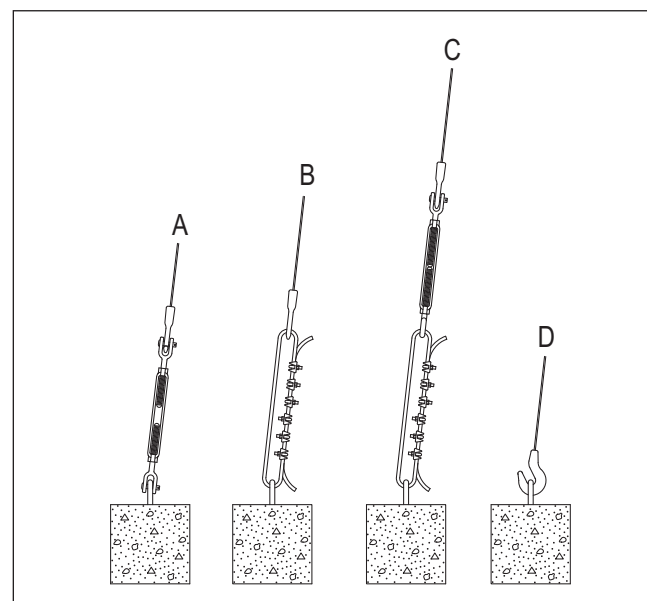
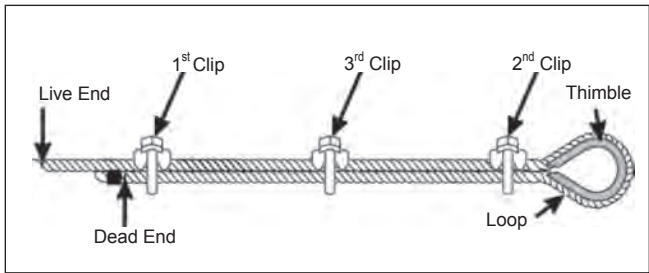
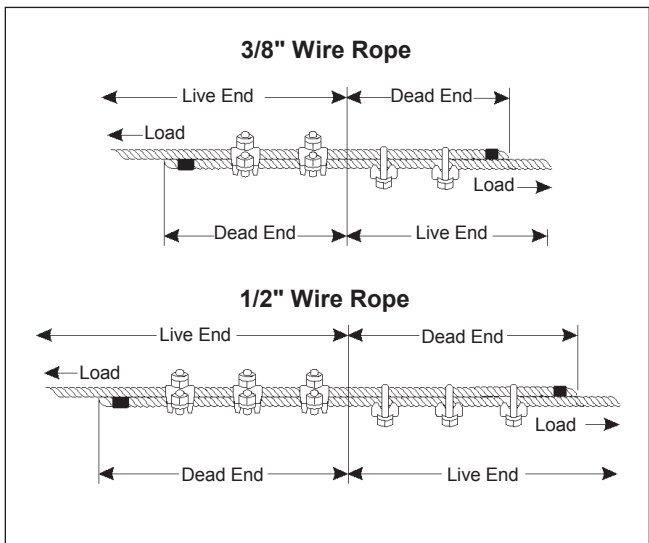

FIGURE 8-4
FIGURE 8-5
FIGURE 8-6
8.3.7. When connecting the end of an anchor strap to the anchor point, common methods are those *shown in FIGURE 8-4*: A) using a drop-forged turnbuckle, B) using a looped wire rope, C) using a combination of both A and B, and D) using the hook end of the strap.
8.3.8. If using a wire rope, refer to recommendations of wire-rope manufacturer and supplier, and follow accepted industry standards when selecting, using, attaching or connecting wire rope. See *FIGURE 8-4*, *FIGURE 8-5* and *FIGURE 8-6*.
8.3.11. Apply the first clip at a distance from the dead end of the wire rope that is equal to the largest width of the clip used. See *FIGURE 8-5*.
8.3.12. For each clip, apply a U-bolt over the dead end of the wire rope. See *FIGURE 8-5*.
8.3.13. When only 2 clips are required, apply the second clip as close to the loop or thimble as possible. See *FIGURE 8-5*.
8.3.14. When more than 2 clips are required, apply the second clip as close to the loop or thimble as possible, turn nuts on the second clip firmly, but do not tighten initially. See *FIGURE 8-5*.
8.3.17.3. Place the rope ends parallel to each other and install the clips as shown in *FIGURE 8-6*.